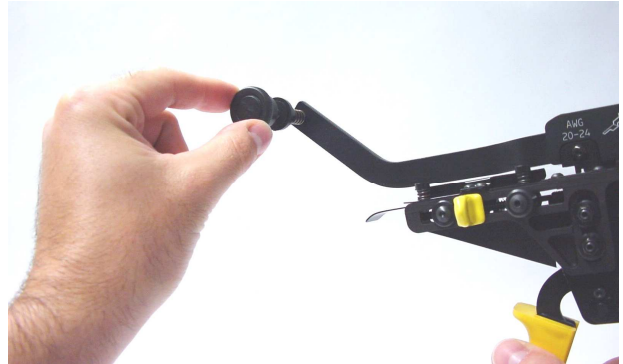

Figure 5
**2.** Now the contact reel is mounted to the reel holder in such a way that the contact strip unrolls in an anticlockwise direction. The layout of the holder guarantees that the contact strip unrolls linearly to the guide bar (see figure 5).